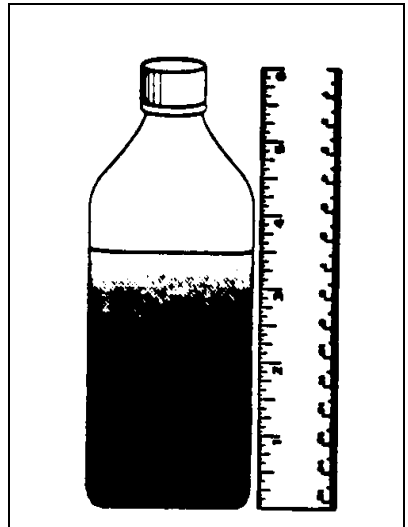

Fig 12A-1 Silt Test
2. **Clay and Fine Silt Test** (Fig 12A-1). To test for the presence of clay and fine aggregate: